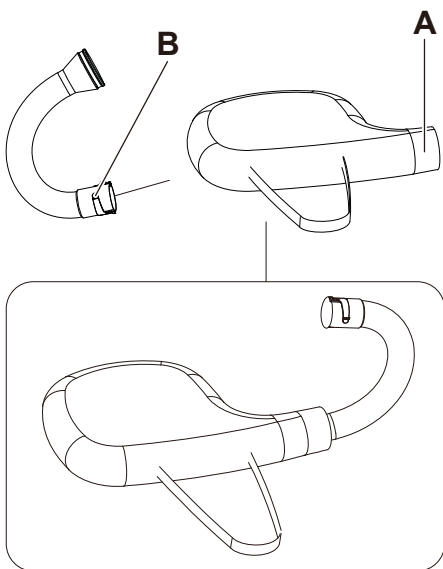

Fig. 4
1. Insert the curved tube through the zipper of the bag. Slotted end of tube (B) goes first through area (A) of bag. See complete assembly picture in FIG. 4 for the proper look. Once the tube is in place tighten the Velcro strap.
3. Open the Velcro and the zipper of the bag, take the curved tube out from the bag. Then close the zipper. (Fig.4)